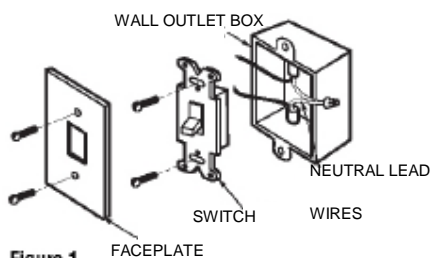

Figure 1
4. Disconnect the electrical wires from existing wall switch (Figure 1).